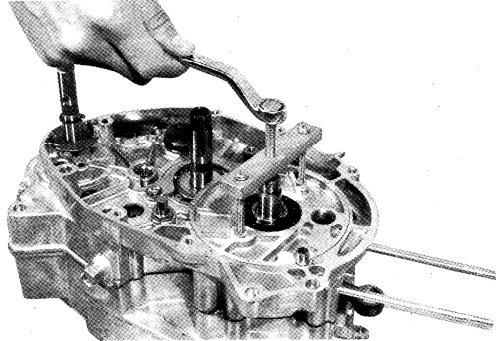

Fig. 5-4-24
24. Remove outer valve seat from crankcase with an outer valve seat remover (special tool 09913-20611). Fit the tool screws into the screw holes on the outer valve seat and turn the tool bolt with a 14 mm wrench. The primary pinion spacer and the right crankshaft oil seal can be removed usually together with the outer valve seat. (Fig. 5-4-24)